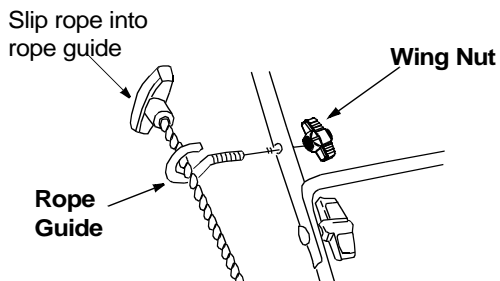

Figure 6
- The rope guide is attached to the right side of upper handle. Loosen the wing nut which secures the rope guide. See Figure 6.
- With spark plug wire disconnected and grounded, hold the blade control handle against the upper handle, and pull the starter rope out of the engine. Release blade control handle. Slip the rope into the rope guide. Tighten the wing nut. See Figure 6.